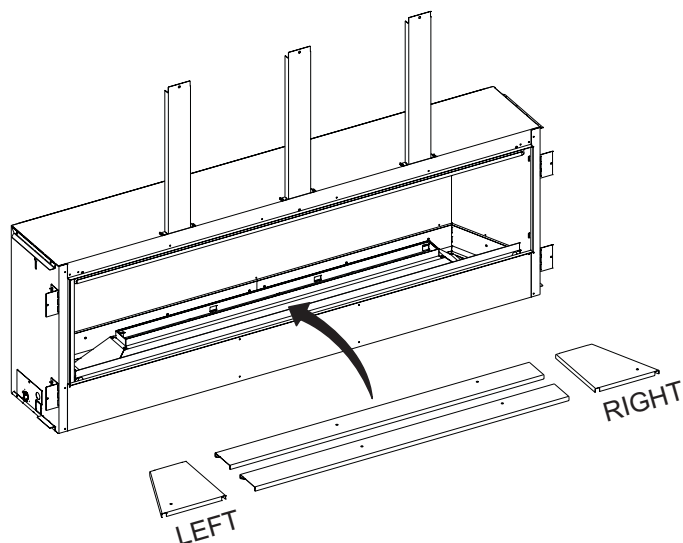
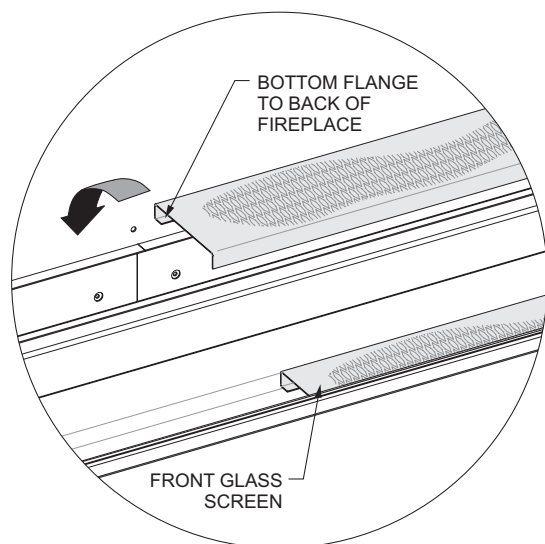

Figure 53
Figure 54
4. Install the burner screens as shown in **Figure 53**. If installing an optional log set, refer to the log set instruction manual for placing the log pins into the burner screens. **See Figure 54.**
NOTICE: The flange on the bottom of the front and rear burner screens must be toward the rear of the fireplace. **See Figure 54.**